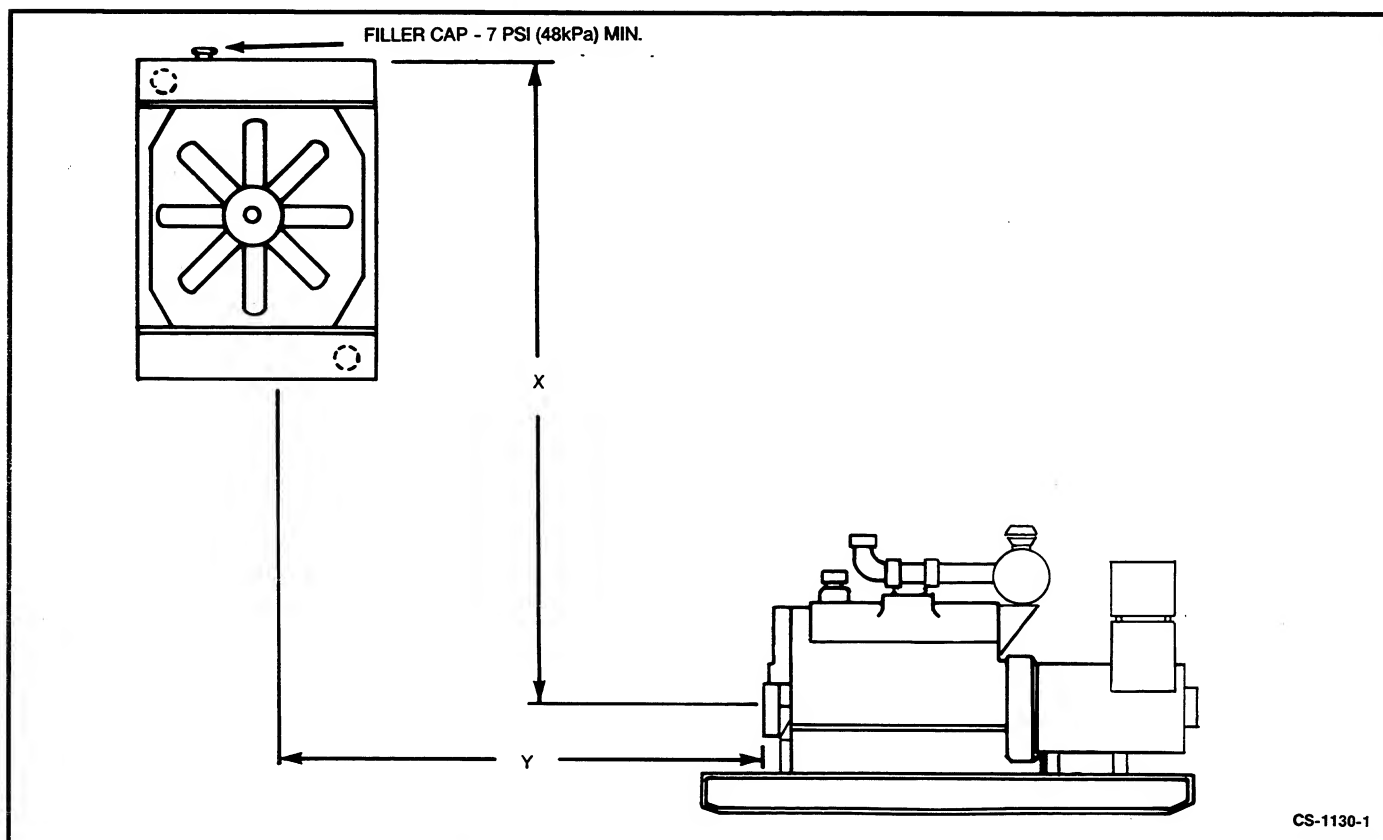

FIGURE 5-7. REMOTE RADIATOR INSTALLATION
Two key design considerations in a remote radiator installation are the vertical distance (X) from the engine centerline to the radiator top and the horizontal distance (Y) from the engine front to the radiator centerline (see Figure 5-7). These distances determine if any additional equipment is required such as a surge tank, auxiliary pump, or hot well. Because of the many design considerations, all remote radiator installations must be designed to insure that the system will function properly. Follow the instructions of the consulting engineer when installing a remote radiator system.